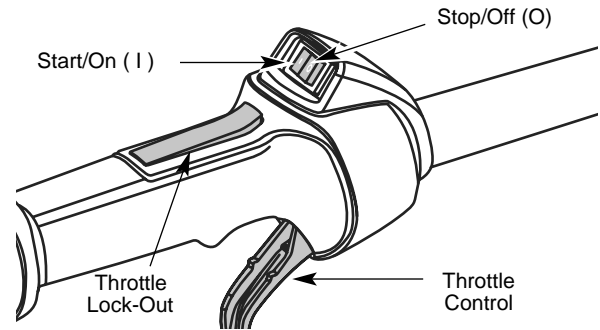

Fig. 20
NOTE: There is no need to turn the unit on. The On/Off Stop Control is in the ON (I) position at all times (Fig. 20).
2. Press and hold On/Off Stop Control in the OFF (O) position until engine comes to a complete stop (Fig. 20).